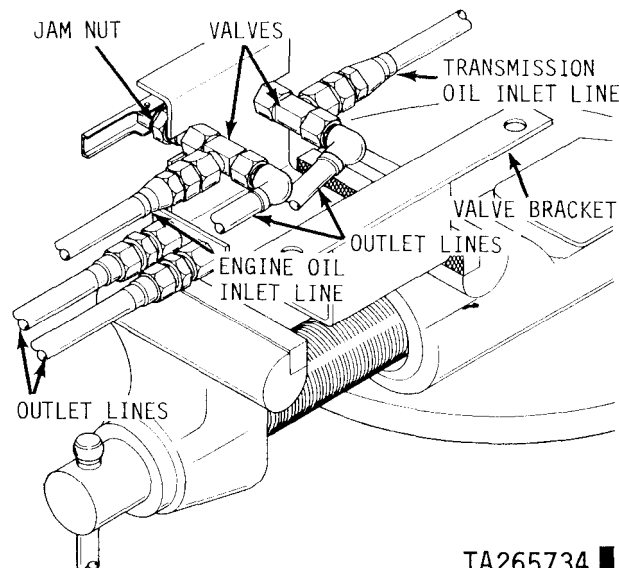

Figure 2-148.11. Removing or installing oil sampling valves in bracket
(1) Install mounting bracket in a vise, and install the valves as shown in figure 2-148.11, with the handles and the inlet ports facing opposite each other and parallel to bottom flanges of mounting bracket. Secure both valves in mounting bracket by tightening jam nut while holding a wrench on nut directly behind bracket wall.
(2) Connect outlet hoses to valves (fig. 2-148.11). Connect opposite ends of two outlet hoses to fittings on mounting bracket side flange.
(3) Attach engine oil inlet line (fig. 2-148.11) to left valve. Attach transmission oil inlet line to right valve.